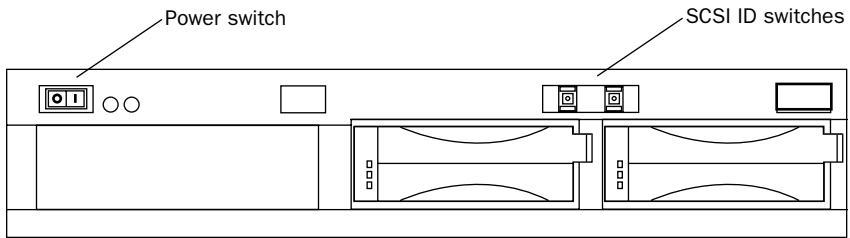

Figure 13. SCSI ID switch location
- 2 Locate the SCSI ID switches on the front of the MediaDock II chassis (see Figure 13 on page 19).